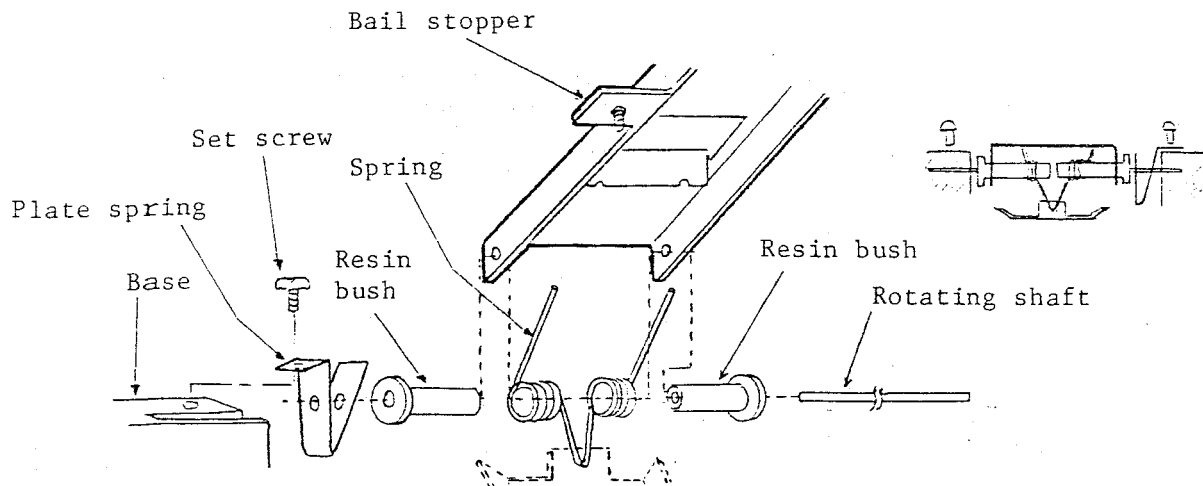

Fig. 4.16 Plate Assembly
- (1) Tools and measuring instruments to be used:
- (2) Disassembling
- (3) Assembling
- (b) Secure the rotating shaft with the set screws. As shown in Fig. 4.16, the set screw on the head load assembly side should be tightened together with a plate spring.
- (4) Adjustment